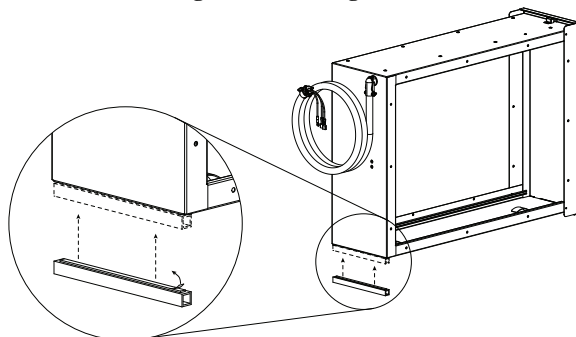

Fig. 8 – Installation of Support Foot
4. If the air purifier is to be mounted in a side-flow application, affix the adhesive-backed support foot to the side of the purifier that will be on the floor, near the rear of the purifier, as shown in Fig. 8.